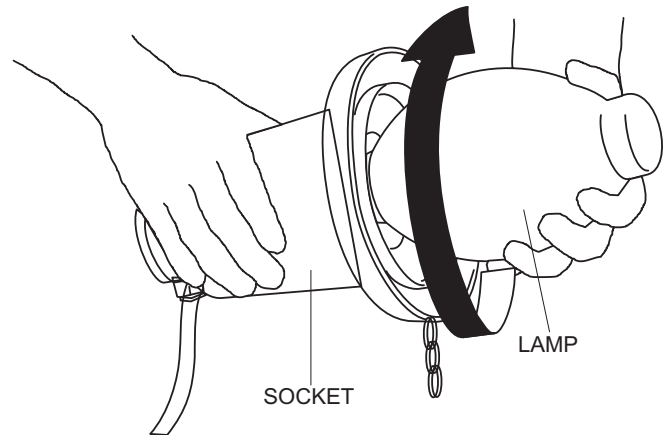

Figure 10. Installing the Lamp
1. Screw the lamp into the socket (use 400 watt metal-halide type lamp). Always allow a sufficient amount of time for the lamp to cool down before changing. See Figure 10.